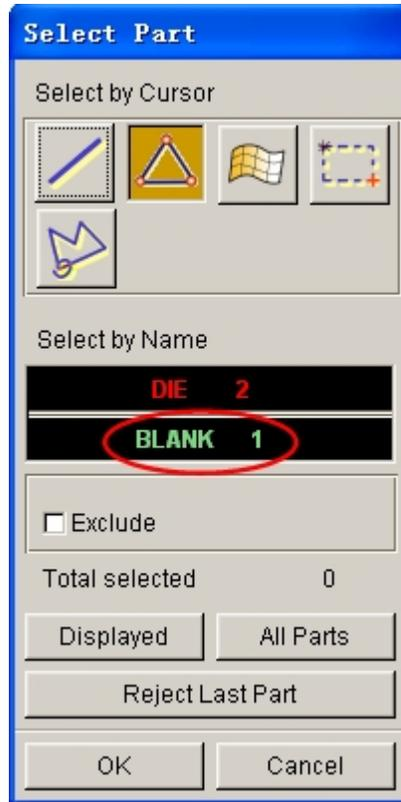

Figure 1.9 Select Part dialog box
4. Click **Add Part...** button. Use your mouse cursor to select the **BLANK** part from the SELECT PART dialog box illustrated in Figure 1.9.